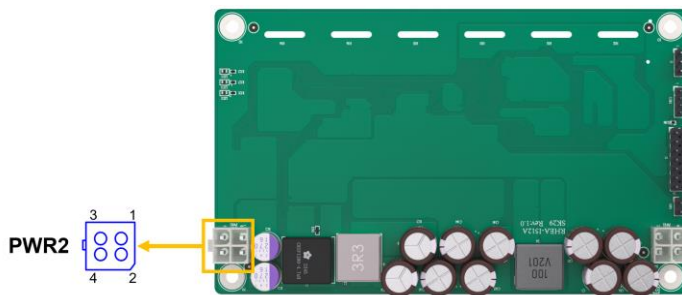

Figure 3-5: Power Output Connector Location
- CN Location:** See **Figure 3-5**